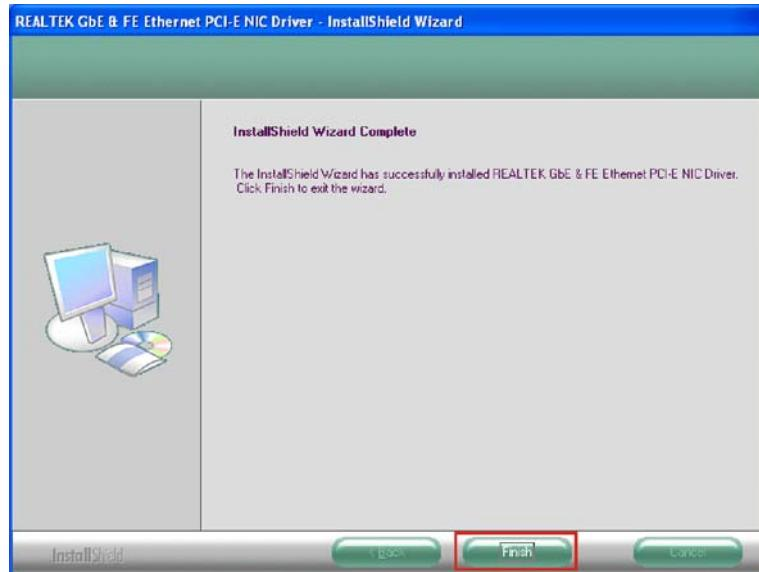

Figure 7-19: LAN Driver Installation Complete
**Step 9:** When the driver installation is complete, the screen in **Figure 7-19** appears.
**Step 10:** Click **FINISH** to exit the InstallShield Wizard (**Figure 7-19**).